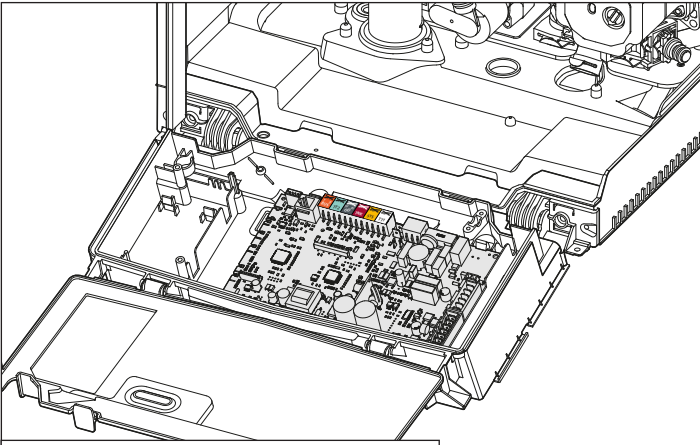

Figure 66 - Outdoor Sensor Connection
6. Open the control panel cover to have access to the main PCB. See Figure 66.